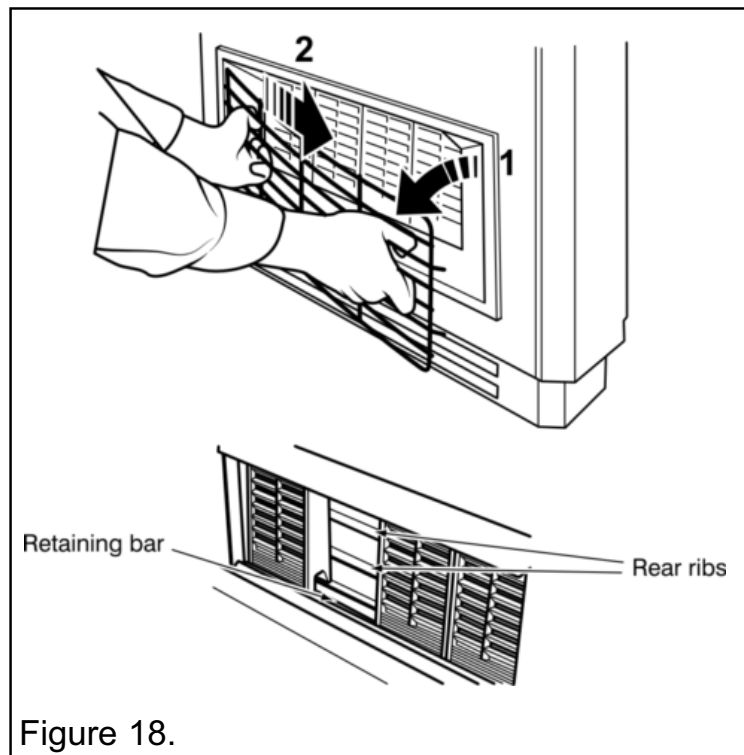

Figure 18.
**1.** Remove the dress guard by gently pulling it in the centre with one hand, and carefully springing out one end from the fascia with the other. Slide the opposite side of the dress guard clear of the fixing holes. **Take care not to scratch the trim (See figure 18).**